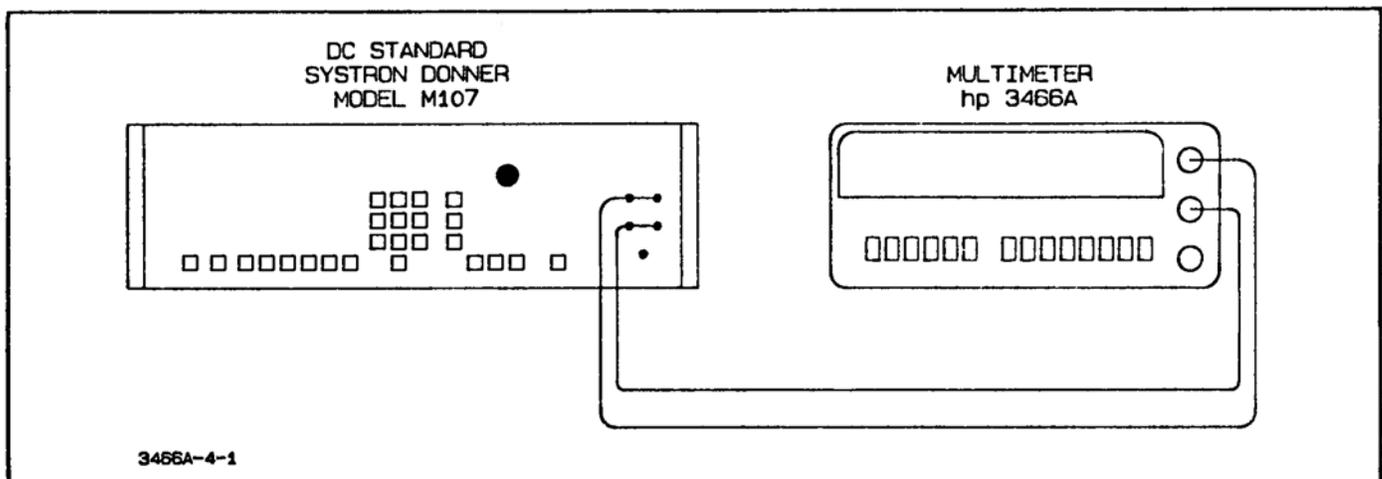

Figure 4-1. DC Voltmeter Accuracy Test
- d. Connect the DC Standard to the 3466A's input terminals as shown in Figure 4-1.